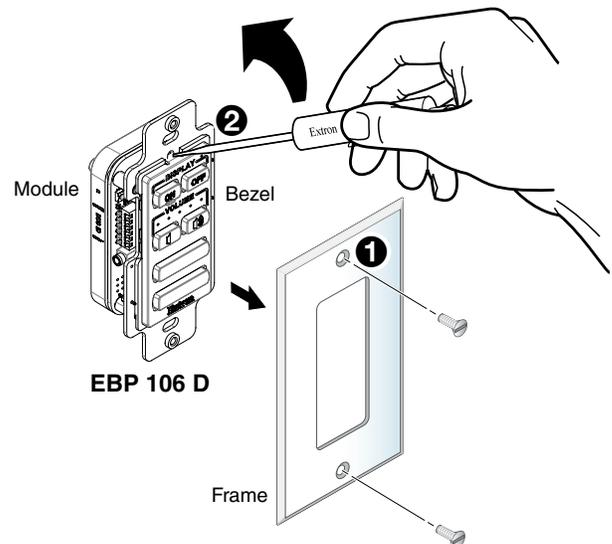

Figure 5. Releasing the Faceplate
1. To remove the frame, remove the two screws holding the frame to the module (figure 5, ①).
2. To separate the bezel from the module, insert a small flat-bladed screw driver into the notch at the top of the bezel. Release the catch holding the bezel to the module (②).